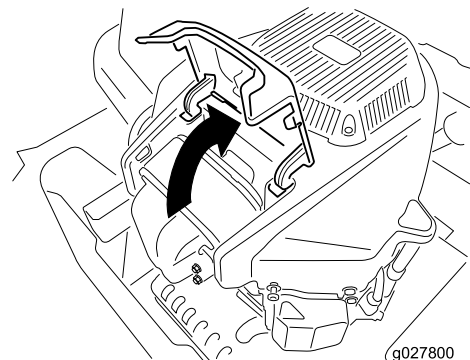
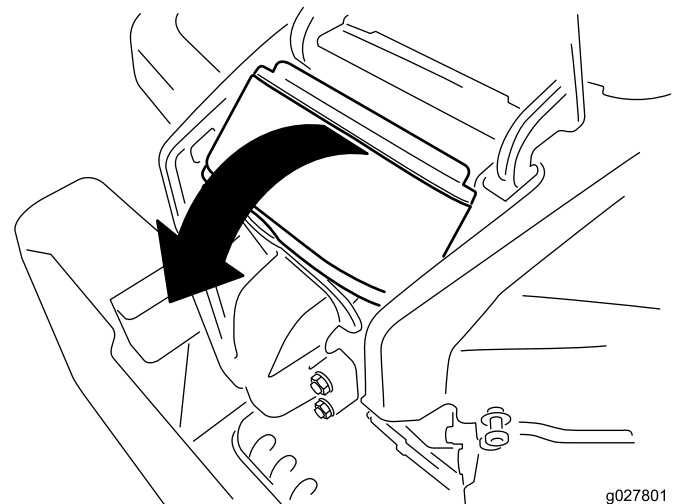

Figure 25
Figure 26
- Lift the cover and rotate the air-cleaner assembly out of the engine (see Figure 25 and Figure 26).